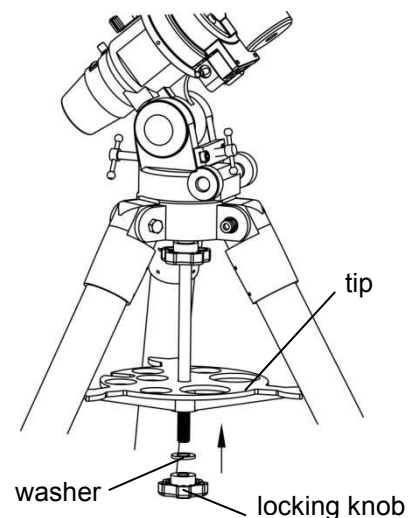

Fig 3
1.3 Attaching the accessory tray (Fig 3)
- 1.3.1 Slide the Accessory tray along the central locking shaft until its three tips push against the tripod legs, and then secure the tray with the washer and the locking knob. (Fig3)